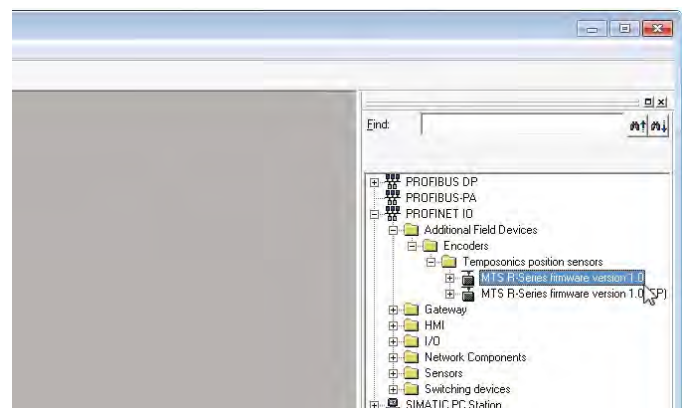

Fig. 62: Select MTS communication protocol (source: Siemens)
- Select the MTS communication protocol from the directory displayed on the right (Fig. 62).